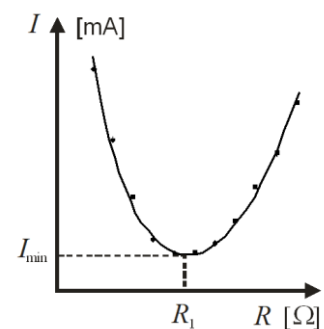

Fig. 2
7. On the basis of the results obtained, make a graph  $I = f(R)$  and determine graphically the resistance  $R_1$ , at which the bridge is balanced, see Figure 2.
8. Using equation (9), calculate the conductivity cell constant C.